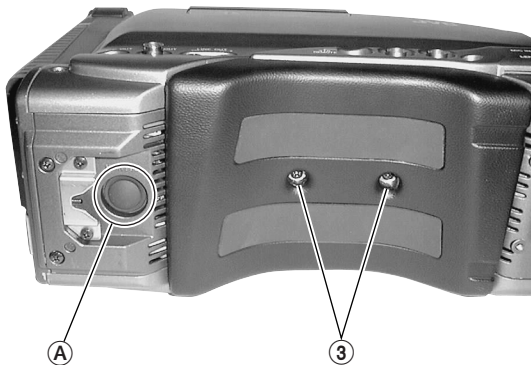

Fig. 1-1 Position of the Circuit Breaker
- (1) Remove the left side cover (see section 1.2.1).
- (2) Remove the 2 screws (3) and remove the shoulder pads (see Fig. 1-1).
- (3) Remove the 4 screws (4) and remove the bottom cover.